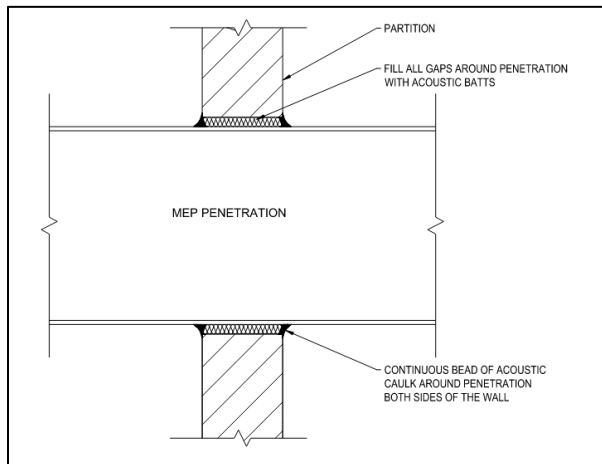

Figure 1: MEP penetration concept
- Minimize penetrations in sound-rated partitions and acoustically seal all such penetrations (see concept in Figure 1).